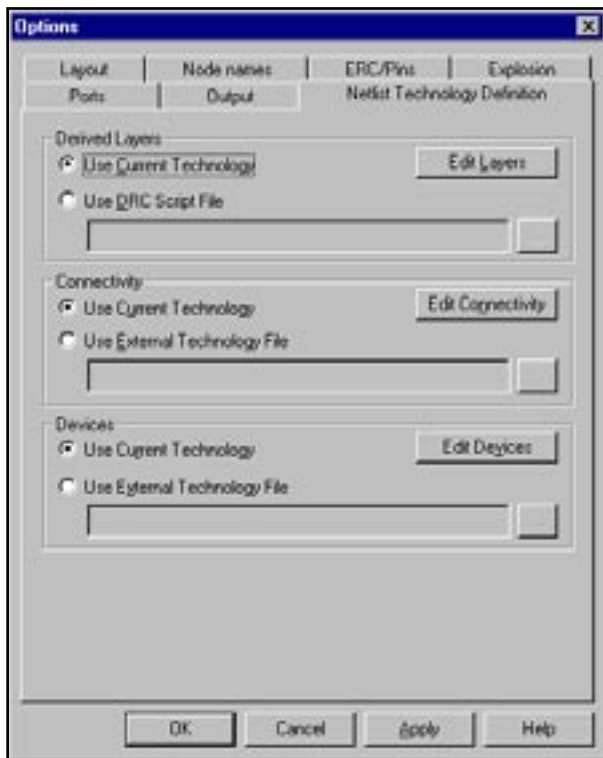

Figure 7. Netlist Technology Definition Page.
*HIPEX-Net* deals with three types of technology information (see Figure 7): Layer Derivation Statements (**Derived Layers**), Connectivity Statements (**Connectivity**), and Device Definitions (**Devices**). You can modify these types of technology parameters separately.